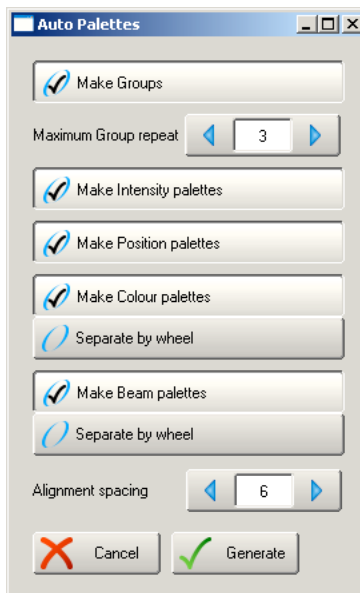

Figure 7.3. The Auto Palettes Window
1. Setup → Patch, Auto Palettes : the Auto Palettes window opens, giving a range of options; see Figure 7.3, “The Auto Palettes Window”.